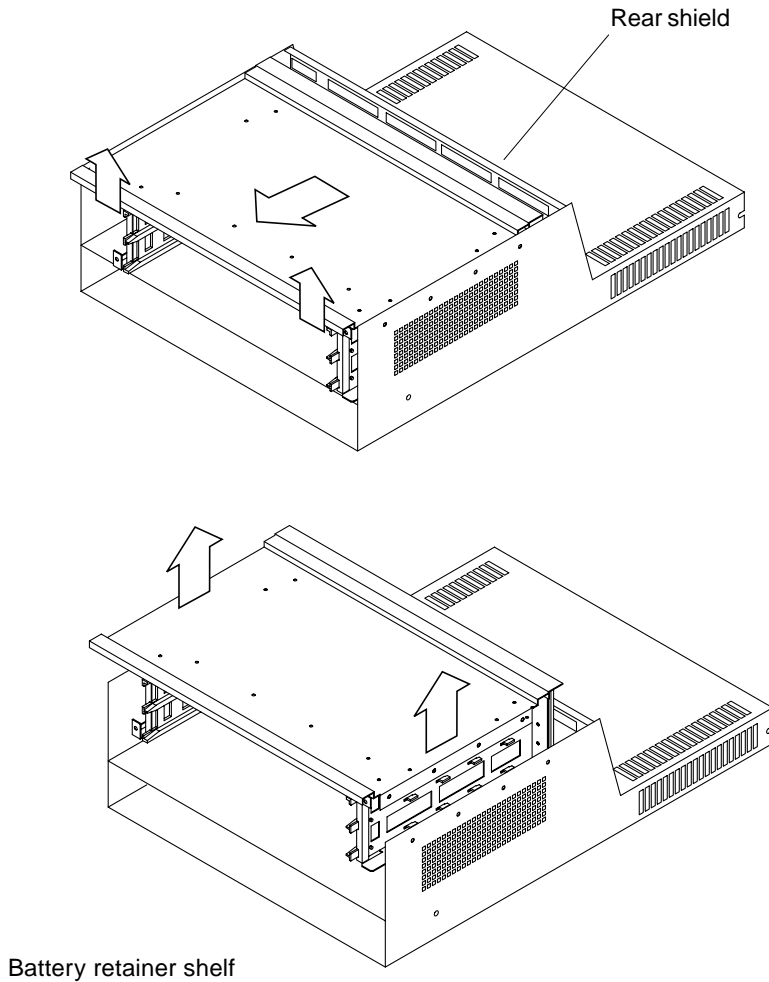

FIGURE 7-11 Removing the Controller Card Cage
- c. Grasp and lift the top, front edge of the controller card cage slightly (about one inch) and pull the card firmly toward the front until the connectors on the controller back panel exit the holes in the rear shield (FIGURE 7-11).**
You will see one end of the battery harness (gray ribbon cable) mounted on a bracket at the back of the battery retainer shelf (FIGURE 7-11 shows the location of the battery retainer shelf).
Note – There are four holes in the bottom frame of the controller card cage that fit over four mounting pins in the top of the battery retainer shelf (FIGURE 7-11). When you slide the controller card cage into place, you will feel it drop down when the pins slip into these holes.